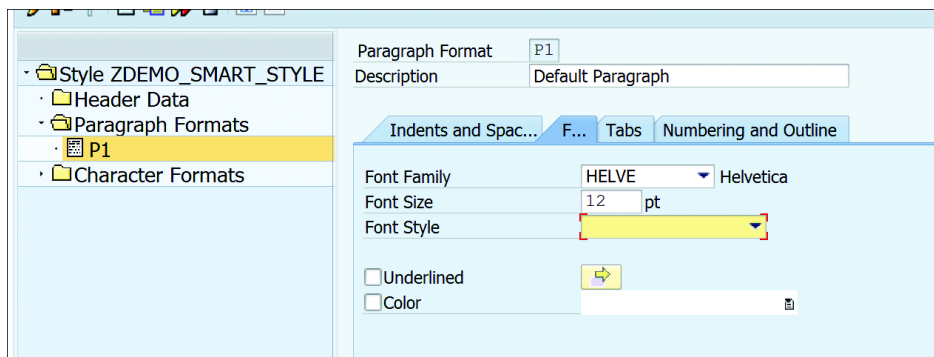

Figure 18.56 Maintain Paragraph Format
5. In the PARAGRAPH FORMAT window (see Figure 18.56), you can maintain various details, such as indentation and spacing, fonts, tab positions, and so on. All of the options are self-explanatory. The paragraph format can be assigned to the text in a smart form, which will then derive the formatting from the assigned paragraph format. We'll explain how to use the paragraph format in just a moment.